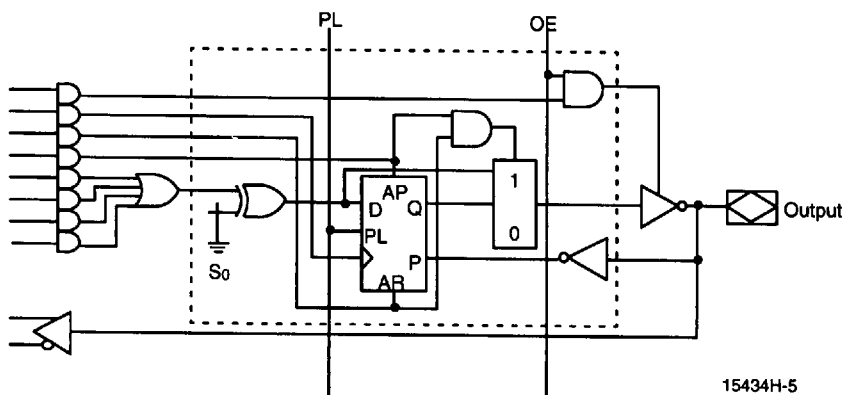

Figure 1. PALCE20RA10 Macrocell
The PALCE20RA10 has ten dedicated input lines and ten programmable I/O macrocells. The Registered Asynchronous (RA) macrocell is shown in Figure 1. PL serves as global register preload and OE serves as global output enable. Programmable output polarity is available to provide user-programmable output polarity for each individual macrocell.